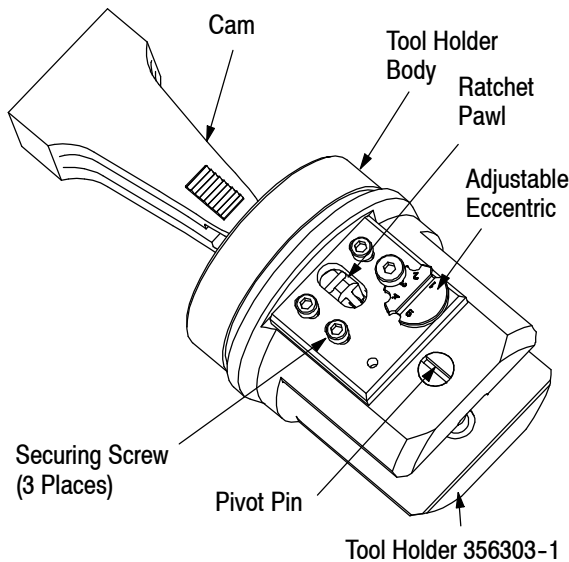

Figure 1
2. DESCRIPTION (Figure 1)
5. If the ratchet releases before the jaws or dies bottom, loosen the three securing screws (see Figure 1), remove the eccentric adjustment screw and rotate the eccentric *clockwise* to a higher setting. Repeat as required.